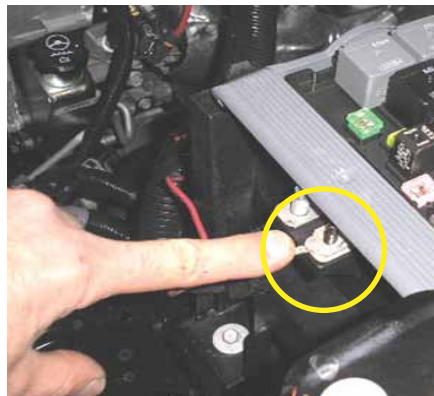

Figure 2
3. Place the terminal on the smaller of the two studs (Fig. 2) in front of the under-hood electrical center and secure with an M6 fastener